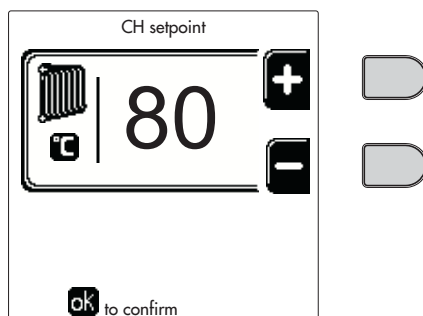
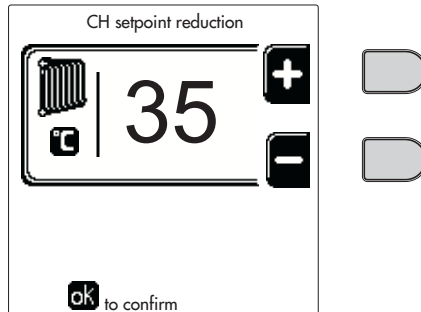
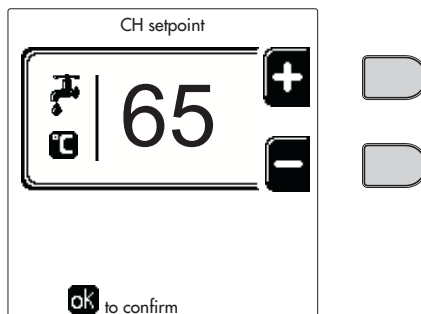
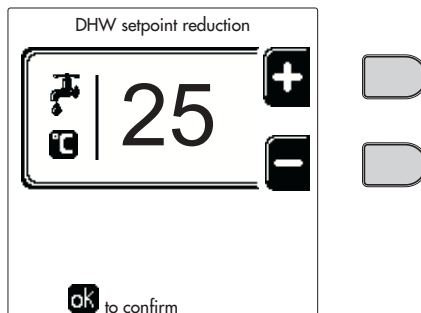

fig. 12
fig. 13
fig. 14
fig. 15
- **ON**. In case of a Heating/DHW demand, the boiler works at the set Heating/DHW (fig. 12/fig. 14) Adjustment Temperature.
- **re**. In case of a Heating/DHW demand, the boiler works at the Reduced Adjustment Temperature. The Reduced temperature is obtained by subtracting the Reduction Adjustment Temperature value (fig. 13/fig. 15) from the set Heating/DHW Adjustment Temperature (fig. 12/fig. 14).